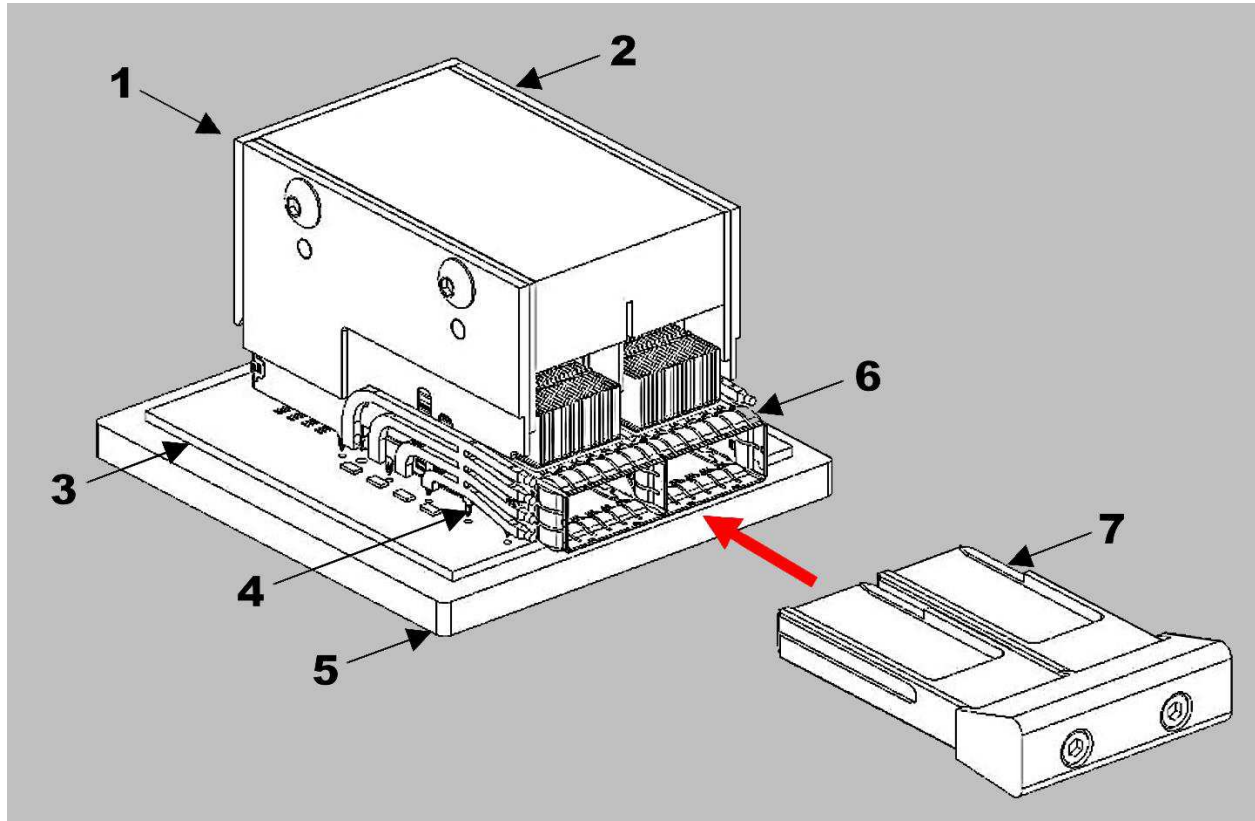

Figure 1: Small Form-Factor Cage Assembly Seating Tool Kit: PN 2185264-[]
The QSFP DD cage assembly seating tool shown in Figure 1 is used to seat a cage assembly (see Table 1 through Table 6) listed in onto a printed circuit (PC) board. The cage assembly contains compliant pin contacts to allow solderless PC board installation. For more information about the cage assembly, refer to application specification 114-60025.